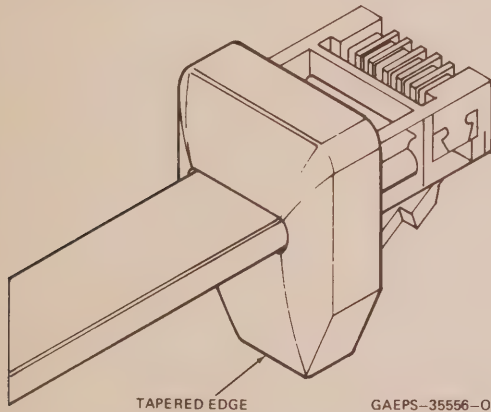

Figure 5. Microphone Connector Detail
A. Grasp the microphone cable directly in front of the microphone connector gasket, making sure that the tapered edge is facing down. See Figure 5.